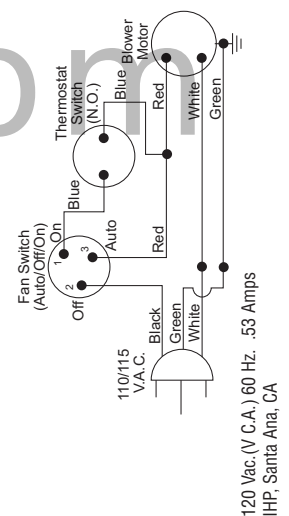

Figure 7 - Wiring Diagram Decal
4. A licensed electrician must follow the wiring diagram to connect incoming electrical supply to blower kit wiring harness (see *Figure 7*).